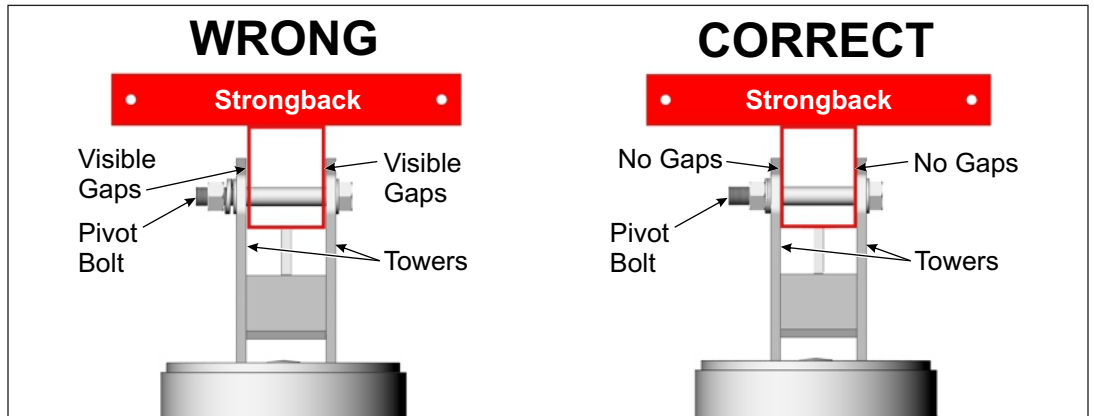

Figure 6-3: Tighten and Torque the Pivot Bolt
- C. Re-tighten the Pivot Bolt. After changing the tilt angle and tightening the Support Bar hardware, the Pivot Bolt must be re-tightened. The Pivot Bolt cannot be left loose - the Mounting Sleeve Vertical Towers must be firmly clamped to the sides of the Strongback eliminating any gaps between the Vertical Towers and the Strongback. **Torque to 75-85 ft.-lbs.** (See Figure 6-3)